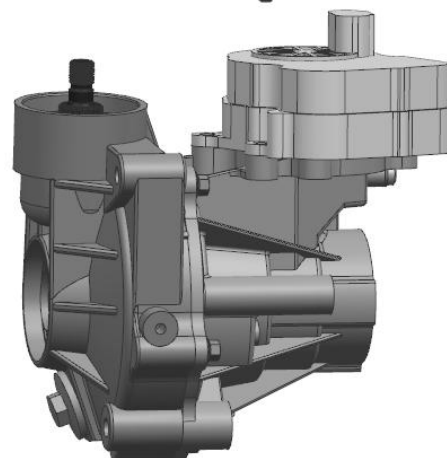

Fig 13
13. Mount the four screws (NO.37) . →Fig 13.